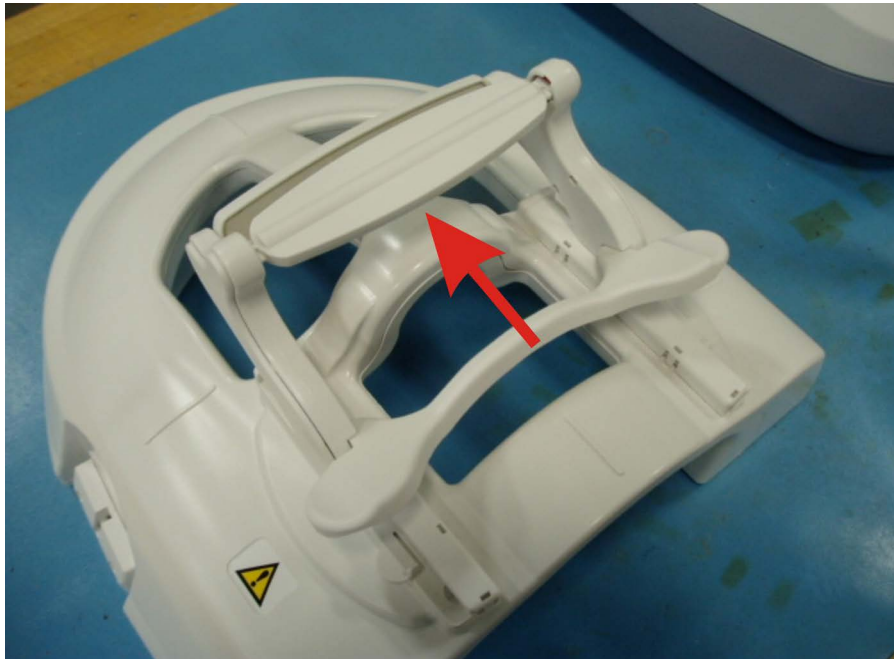
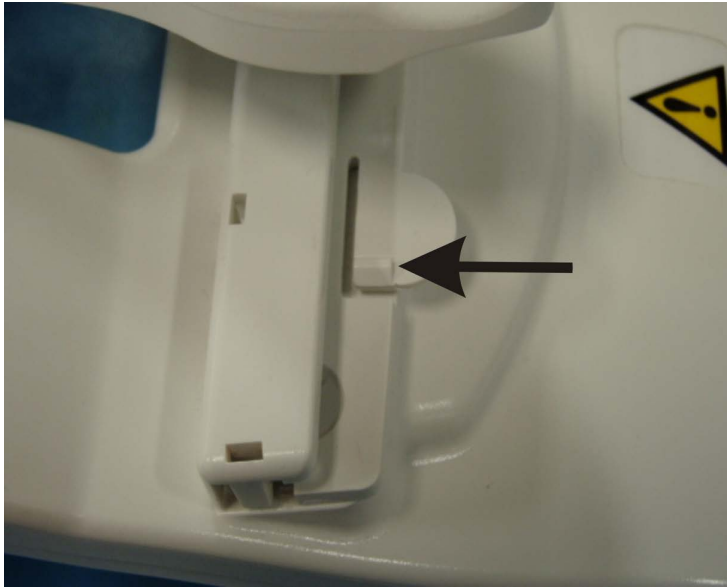

Figure 3-11: Slide mirror onto the rails
Figure 3-12: Right side rail tab.
8. Slide the mirror onto the rails as shown in figure 3-11. The mirror needs to slide past the rail tabs. See figure 3-12 for a photograph of a rail tab.